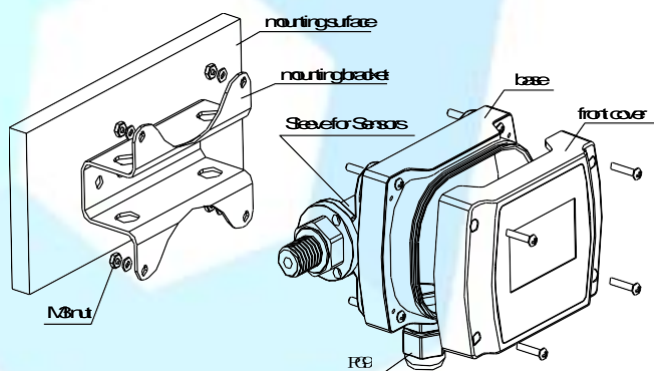

Fig. 1
(1). Mounting bracket (sold separately) auxiliary installation method: as Fig.1, this installation method is flat installation. Open the front cover, take the four longer M3 screws in the attached accessories, replace the four screws fixed with the base and the sensor sleeve, and tighten the screw for use. Firmly install the mounting bracket on the prepared surface and assemble the transmitter into the bracket with the four M3 nuts and washers in the attached accessories.